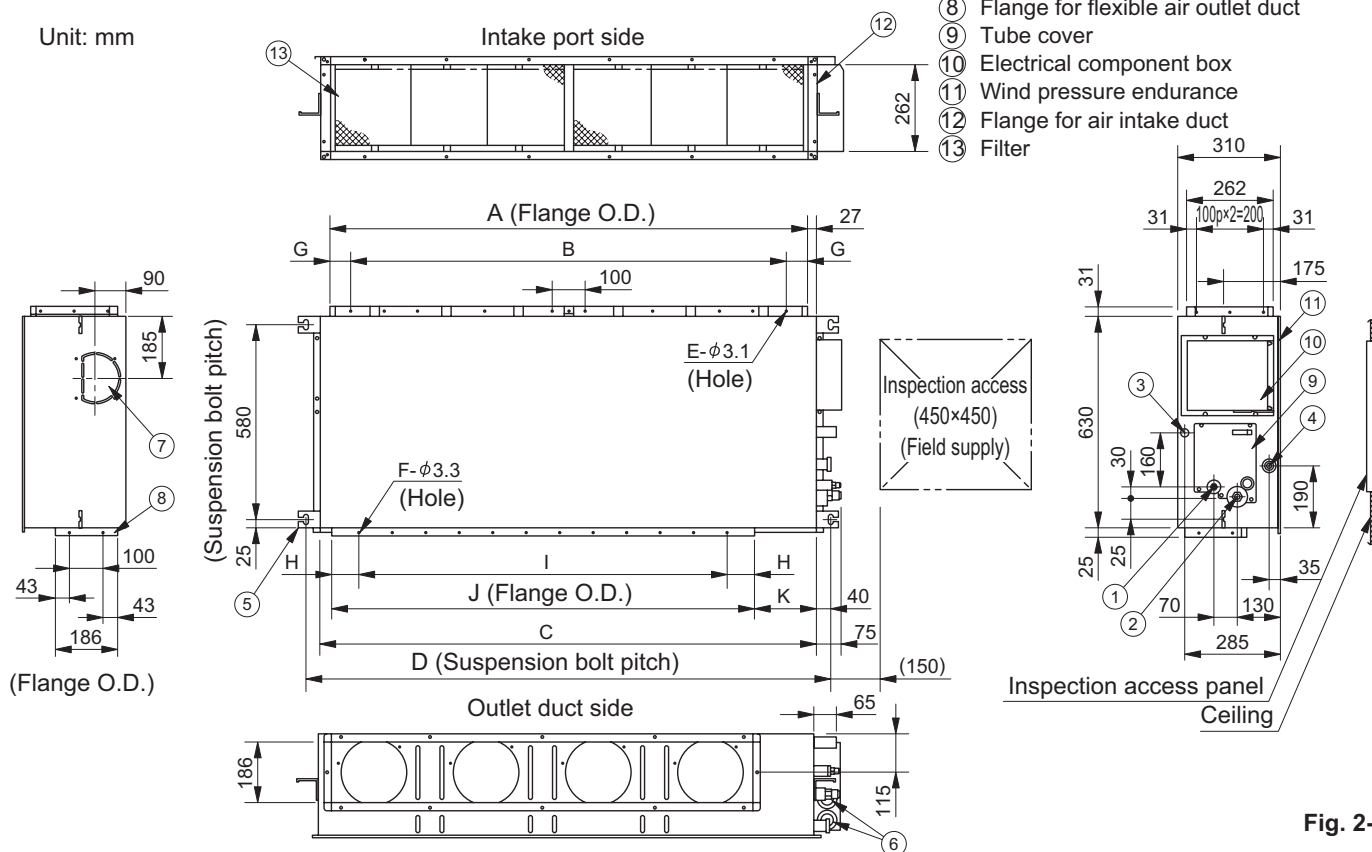

Fig. 2-76
- The detailed dimensions of the indoor unit is shown in Fig. 2-76 and Table 2-14.